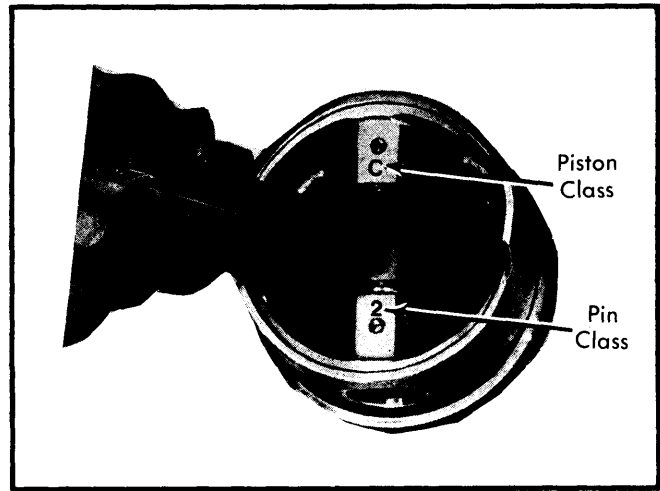

Fig. 8 Identifying Marks for Piston & Pin Classes
3) Subtract the diameter of each piston from the diameter of its cylinder. Clearance should be .0157-.0236" (.40-.60 mm). Pistons, piston pins and bores vary by class as to size. Class identification numbers and letters for pistons and pins are found inside the piston on piston pin bore casting (underneath side of piston). See Fig. 8. Cylinder blocks are also stamped as to cylinder bore class.